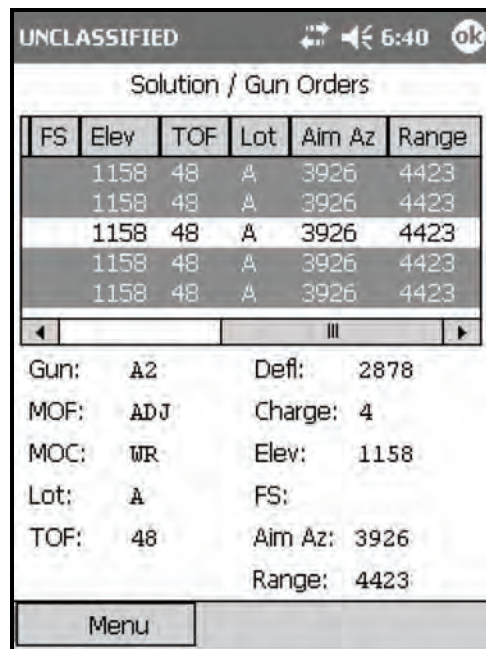

Figure 18-30. Digital Fire Mission: first adjustment.
- (32) Review and record this information as described for the New Call For Fire screen.
- (33) Select Process.
- (34) The Solution/Gun Orders screen (Figure 18-30) displays.